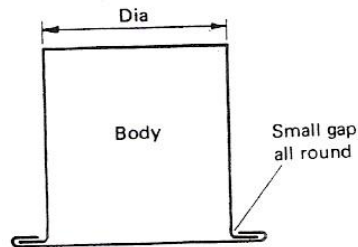
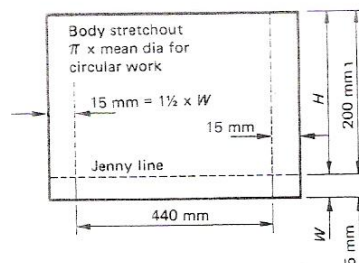
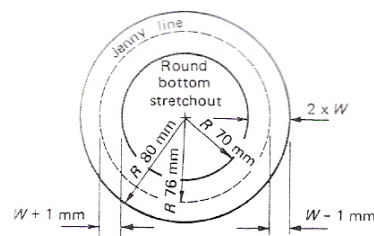
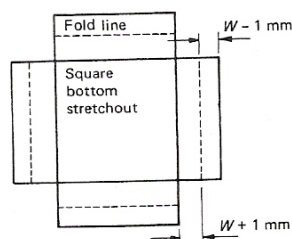

Figure 13 - Paned-Down Joint
Figure 14 - Laying Out 1
Figure 15 - Laying Out 2
Figure 16 - Laying Out 3
The joint is illustrated in Figure 13. Laying-out examples are given in Figure 14, Figure 15 and Figure 16.
3. Mark out one parallel line from the edge of the body stretchout (Figure 14) and two parallel lines from the edge of the round bottom to dimensions shown in Figure 15, and cut out.